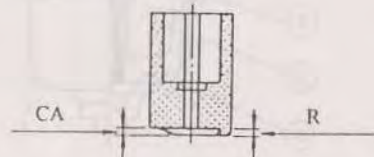

Fig. 34
- The cut-away (CA) and recess (R) are matched on each throttle valve to stabilize the fuel flow rate when the engine is idling. (Fig. 34)